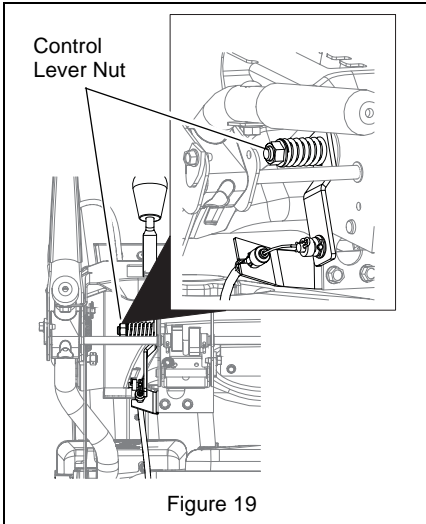

Figure 19
(Figures 19 and 20)
1. Tighten nut beneath control panel to increase pressure on deflector control (Figure 19).